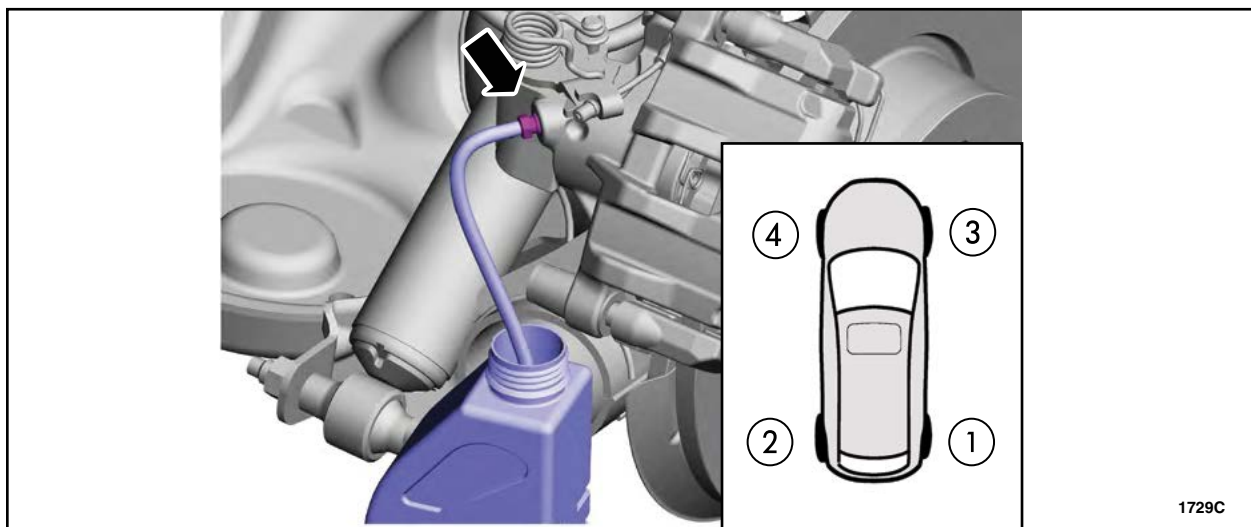

FIGURE 15
6. Loosen all four caliper bleeder screws in the order indicated. See Figure 15. Allow approximately 10 fl oz (295.7 mL) to drain from each bleeder screw.